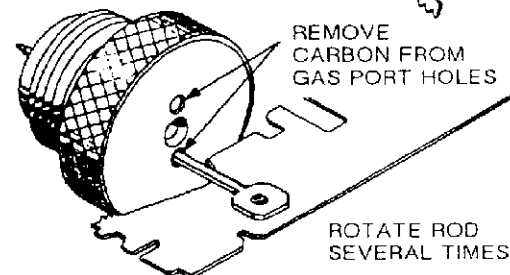

Fig. 4
4. Unfold cleaning rod and clean carbon deposits from holes in gas release knob by rotating rod several times in each hole. See Figure 4.